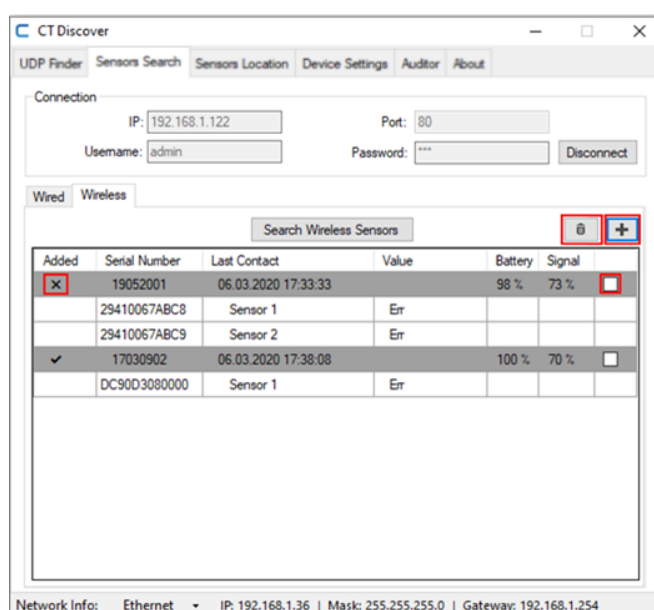

Figure 24 – Wireless Sensors Table
- To add sensors, select the checkbox's on last column and click on button to add (+) (Figure 24)
- To remove the sensors, select the checkbox's on last column and click on button to remove (⌂) (Figure 24).